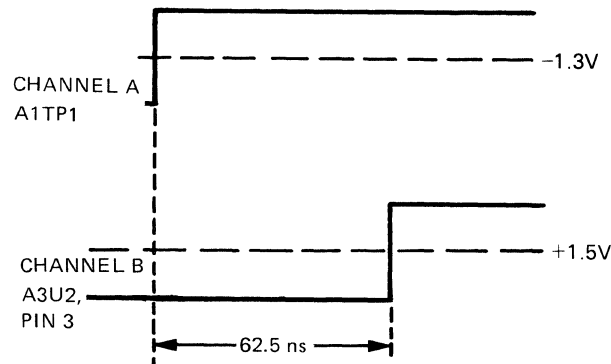

Figure 5-10. Read Adjust Waveform
- o. Adjust A3C8 (READ) for 62.5 ns between rising edge of channel A (A1TP1) and rising edge of channel B (A3TP2 or A3U21, pin 3). See figure 5-10.